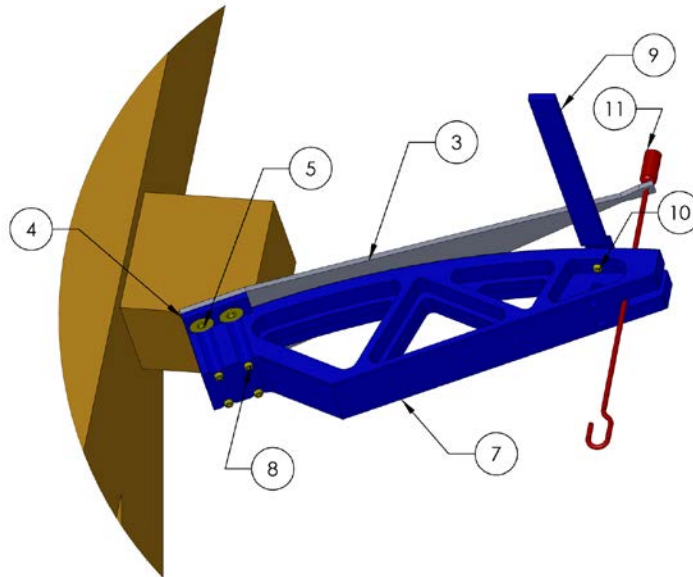

Figure 16: Blade Pre-load Fixturing
2. Refer to Figure 16, place the Blade Spring Bracket D0902819 (item 4) on top of the wide end of the Blade Spring D0902817 (item 3).
3. Attach the Blade Bend Fixture D1101297 (item 7) by means of 4 Titanium Threaded Studs (D1300622) with N-1024-NA nuts (item 8), sandwiching the Blade Spring Bracket between the Blade Spring and the Blade Bend Fixture. Threaded Studs should be snug but not torqued, to allow for perfect centering of the blade once bend is applied.